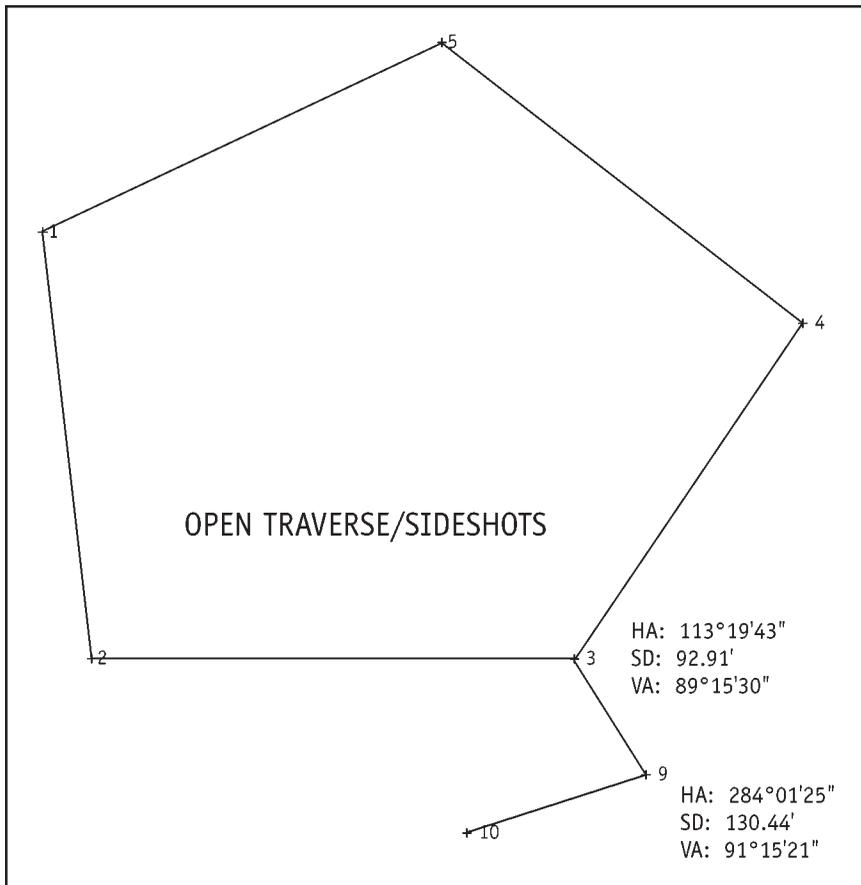

Figure 3 - Open Traverse
- 3) Open Traverse or Side Shots - Adjustment **not** available. *See Figure 3.*